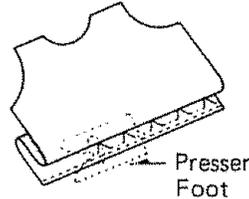

Fig. 3
3. Place garment under presser foot in such a way that narrow zigzag stitches will be sewn on extended edge. The wide zigzag stitch should just catch the fold of the garment. (Fig. 3)